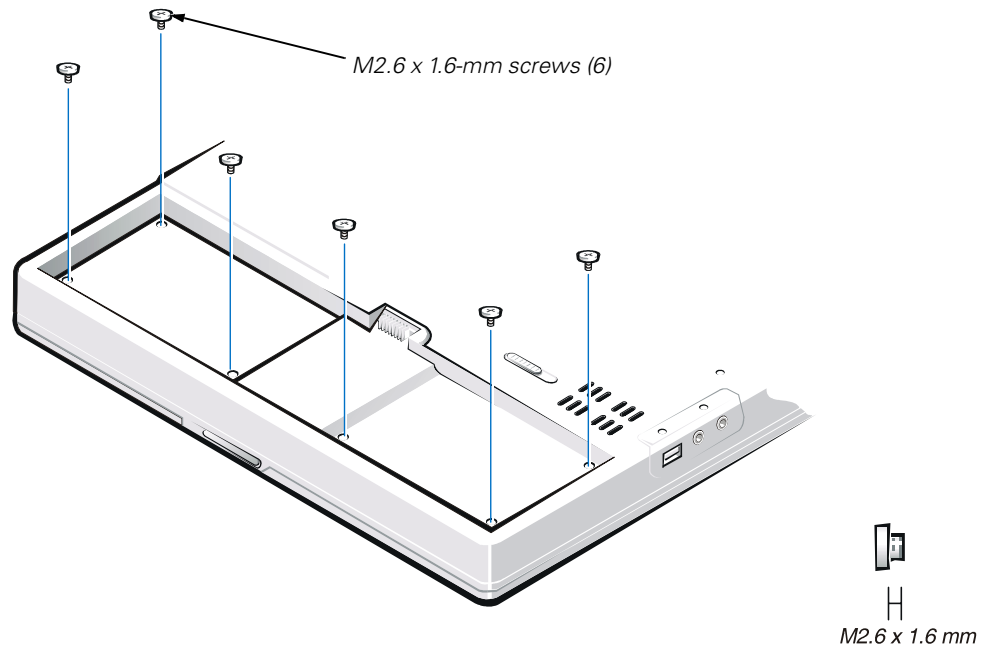

Figure 14. Removing the Palmrest Assembly Bottom Screws
5. Remove the six M2.6 x 1.6-mm screws located in the battery bay (see Figure 14).
7. Reinstall the six M2.6 x 1.6-mm screws in the battery bay that secure the bottom of the palmrest assembly to the bottom-case assembly (see Figure 14).